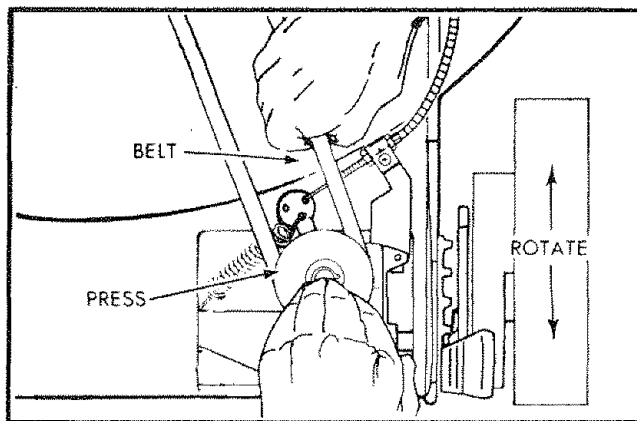

FIG. 20
- a. Push down on gear case pulley until belt can be removed from gear case pulley (See Fig. 20).